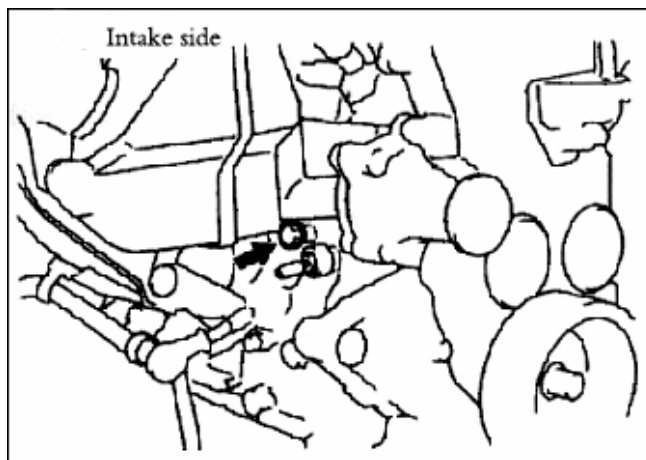

Fig 7-11
- (1) Drain the engine coolant by removing the drain plug and then the radiator cap.
- (2) Remove the cylinder drain plug from the cylinder block to drain the engine coolant. (See Fig 7-11);